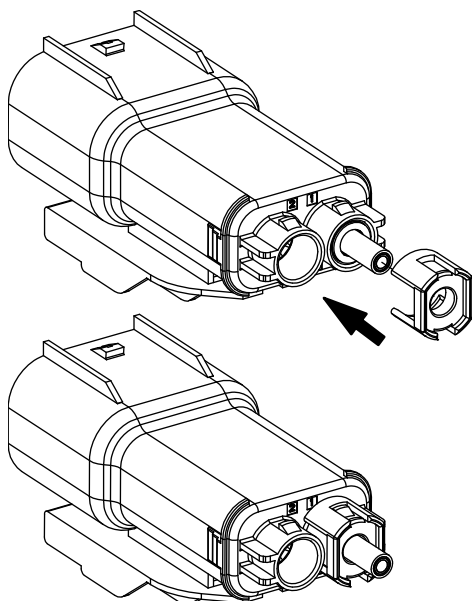

Figure 20
4. Slide the cable seal retainer along the cable and snap it over the locking features. Visually check to ensure that both locking features are engaged as shown in Figure 20. Use a light tug to check that it is fully locked in place.